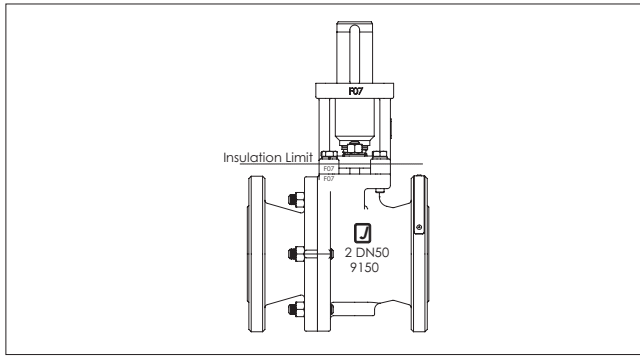

Figure 4. Insulation of the valve
*Jamesbury* 7000 and 9000 series Flanged Ball Valves do **NOT** require insulation. If desired, the valve may be insulated; however, the insulation must not continue above the upper level of the valve (see **Figure 4**).